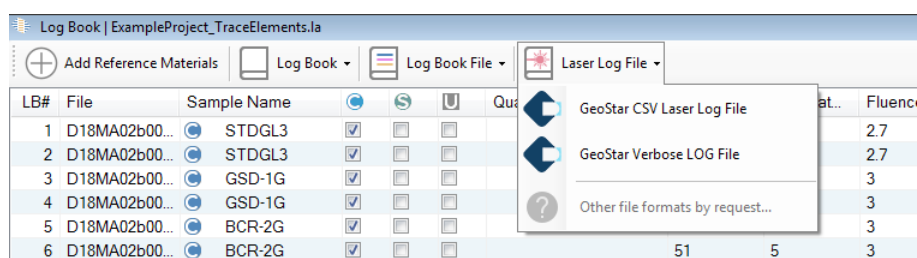

Figure 21: The Laser Log File drop-down menu.
- Laser Log File menu (see Figure 21):